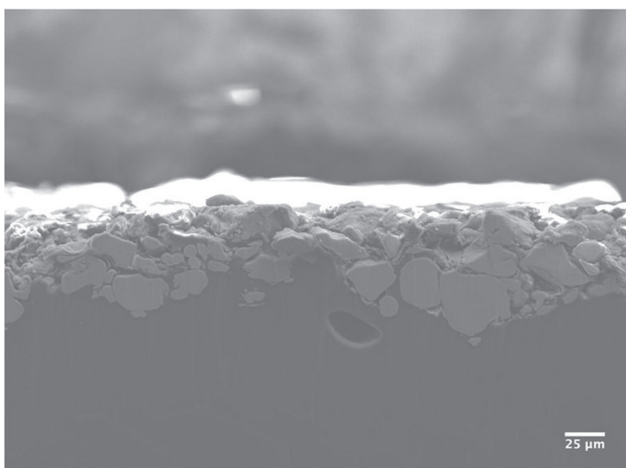

Fig. 4 — Cross-sectional image of CP Al deposited on ABS with four passes.
The feasibility of depositing aluminum onto thermoplastic substrates via cold spray (CS) was investigated. Dense coatings of 7075 Al and CP Al (commercial purity) were achieved on three substrates—polyetheretherketone (PEEK), polyetherimide (PEI), and acrylonitrile butadiene styrene (ABS) using an iterative optimization process. 7075 Al deposition yielded low deposition efficiencies (DEs) and low thicknesses but high adhesive strengths, while CP Al deposition led to high DEs and thicknesses but relatively low adhesive strengths. PEEK and PEI were more suitable substrates for cold spray than ABS, which suffered from surface erosion and substrate distortion. Two key factors were identified that influenced the DE and adhesive strength of the coating. The first factor was the bond layer, the initial few particle layers that fused with the substrate to allow subsequent buildup. The bond layer was influenced by the substrate hardness, yield strength, glass transition temperature, and impact strength, as well as the differences in thermal expansion coefficients of Al and the polymer substrates. The second factor was the CS process parameters selected, as the bond layer and the build-up layers may require different process conditions in order to optimize both bonding strength and coating strength, respectively (Fig. 4).